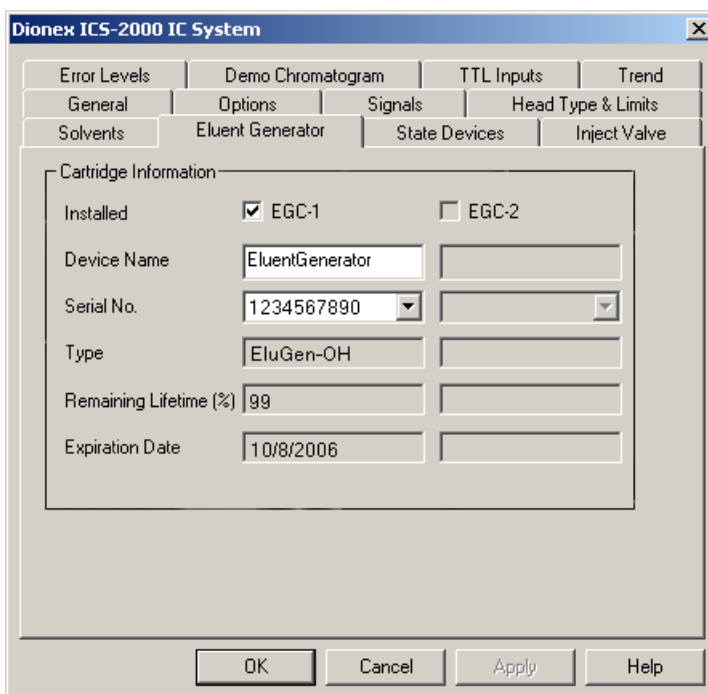

Figure B-45. Eluent Generator Configuration Properties Example
3. Click the **Eluent Generator** tab (see Figure B-45).